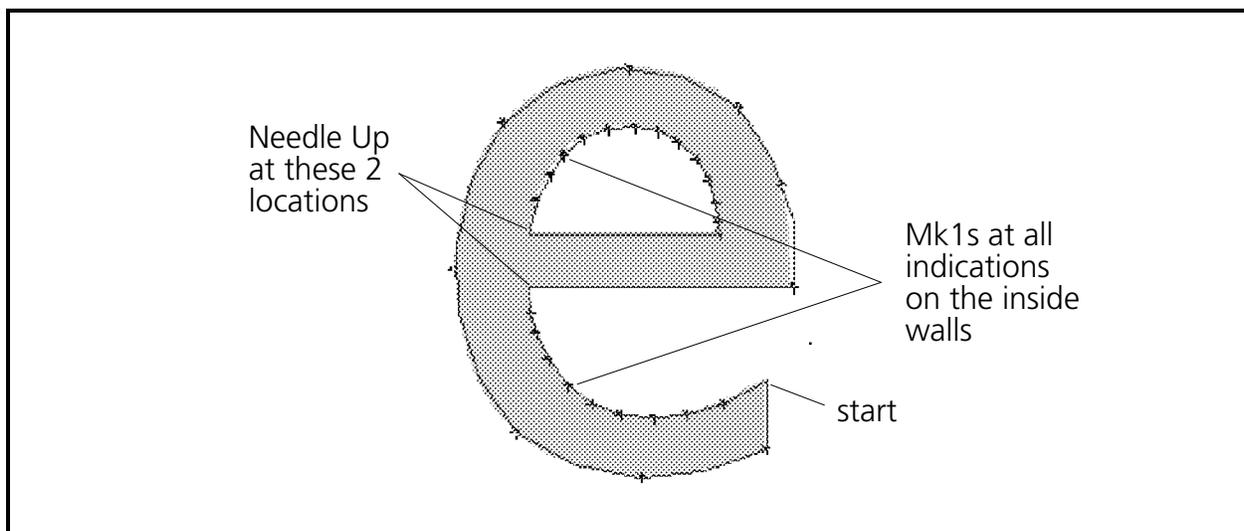

Figure 6-34
1. Enter Mk1s along the inside edge of the tail of the letter **e**. Generate these Mk1s at intervals that will allow the straight lines between them to stay closely aligned with the boundary of the wall (see Figure 6-34).
2. When you get to the crossbar put a Mk1 in the corner (see Figure 6-34).